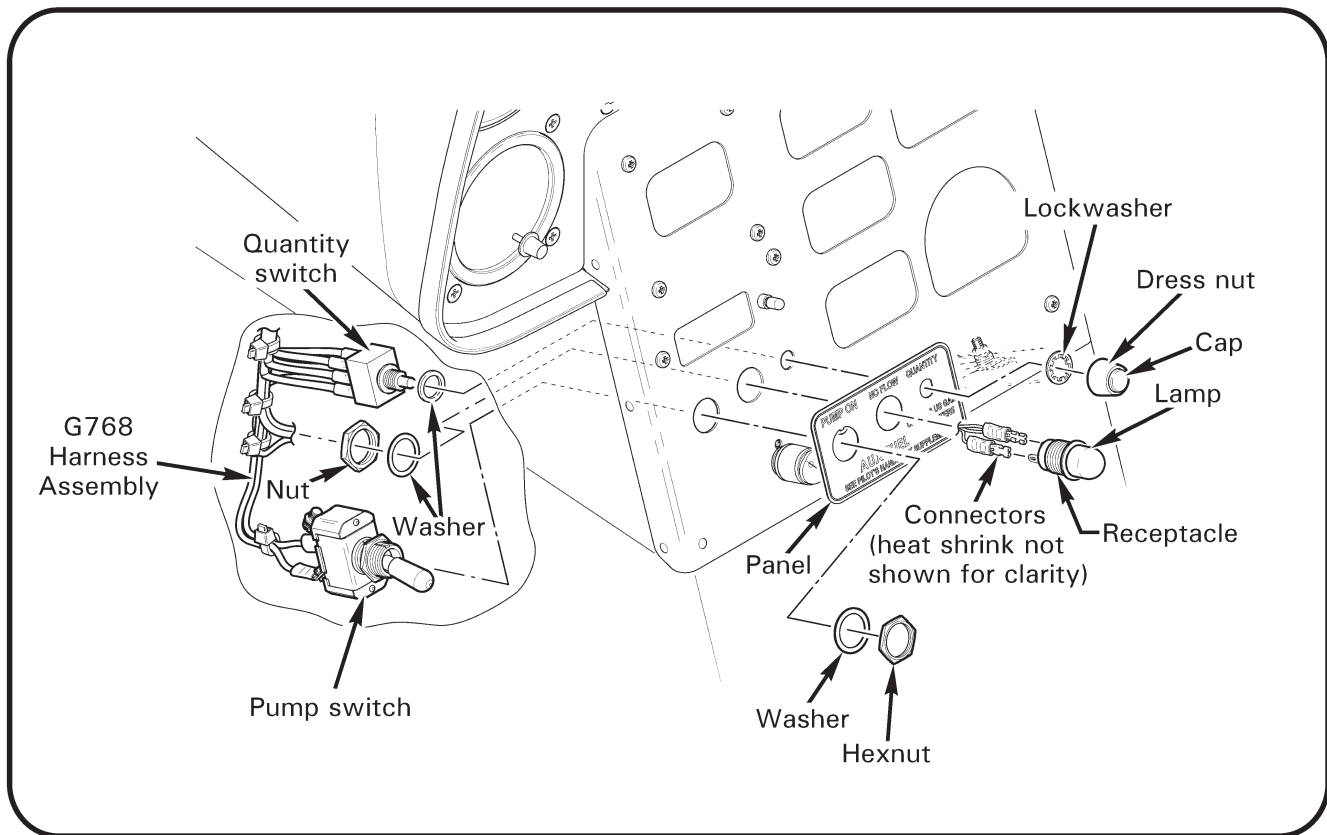

FIGURE 4 Replacement of G768 panel
14. Refer to Figures 4 and 4A. Remove visible hex nut and washer from PUMP ON switch assembly, remove cap & dress nut from QUANTITY switch assembly. Access interior of upper console. Disconnect wires from NO FLOW light (receptacle), remove retaining nut & washer, and withdraw light and receptacle. Select new G768-12 (horizontal) or G768-13 (vertical) panel matching ship console configuration and replace original panel. Install light and switches in reverse order. Secure upper console.